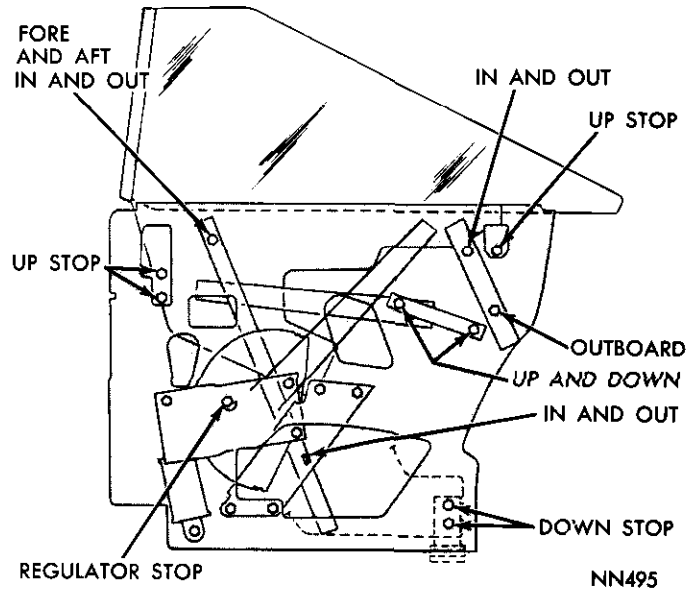

Fig. 54—Quarter Window Adjustments—Coronet Hardtop
(1) With door closed, adjust upper rear track (Figs. 54 and 55) until rear of glass lightly touches belt line weatherstrip. To move window in, turn sleeve nut clockwise; to move out, counterclockwise.
(2) Raise window seating top of glass against roof rail weatherstrip and front of window level with top of front door window.
(3) Adjust upper front track until front of window